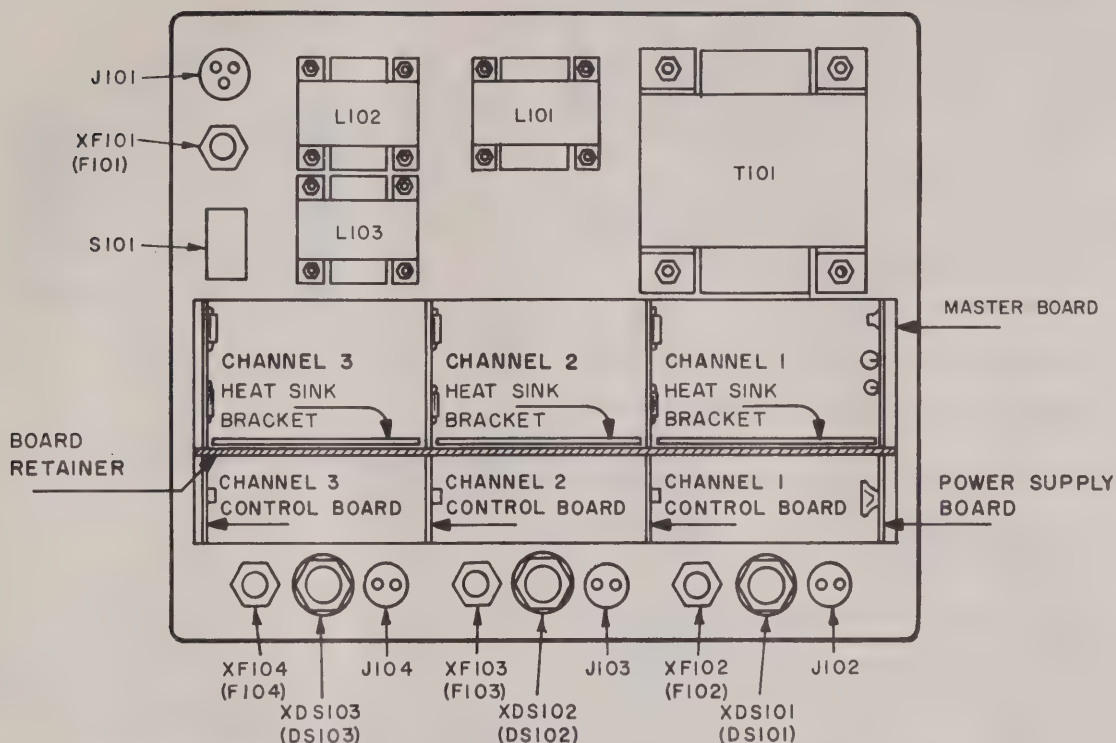

Figure 5-6. Component Locations; Rear of Front Panel
- (1) Remove the charger assembly from its case bottom by performing the operations outlined in paragraph 5-5.
- (2) Remove the board retainer by turning the three fasteners along its length one-quarter turn in the counterclockwise direction and lifting it from its position.
- (3) Carefully pull the desired board straight out from its connector and replace. See figure 5-6 and table 5-2.
c. Carefully pull the three control boards and the power supply board straight out from their connectors on the master board. See figure 5-6.
d. Unsolder all of the wires which connect to the heat sink brackets and the component side on the master board. These wires are to be unsoldered at the component end of the wire, not at the master board end. See figures 5-6, 5-7, and 5-8.
- c. Carefully pull the three control boards and the power supply board straight out from their connectors on the master board. See figure 5-6.
- d. Unsolder all of the wires which connect to the heat sink brackets and the component side on the master board. These wires are to be unsoldered at the component end of the wire, not at the master board end. See figures 5-6, 5-7, and 5-8.